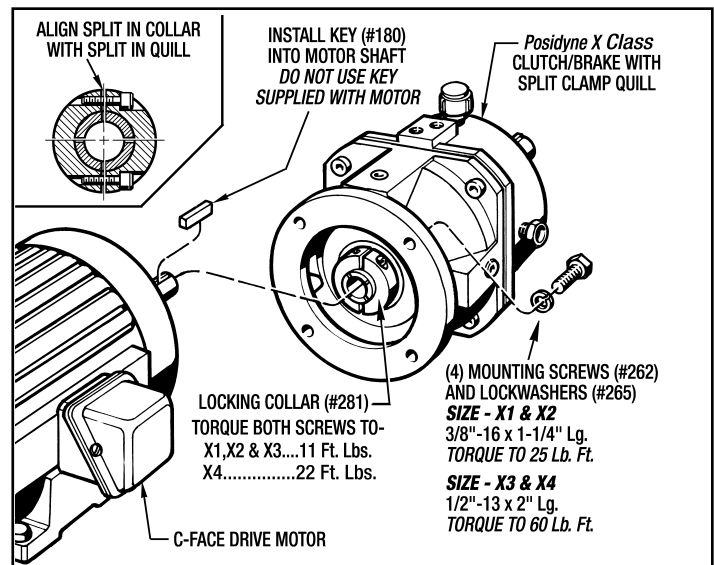

Figure 3 - Mounting The Posidyne Clutch/Brake
(See Figure 3)
2. Loosely install the Locking Collar (#281) in position on the Input shaft (#2) with the split in the collar aligned with the split in the quill shaft as shown in Figure 3. **Do not tighten the screws yet.**